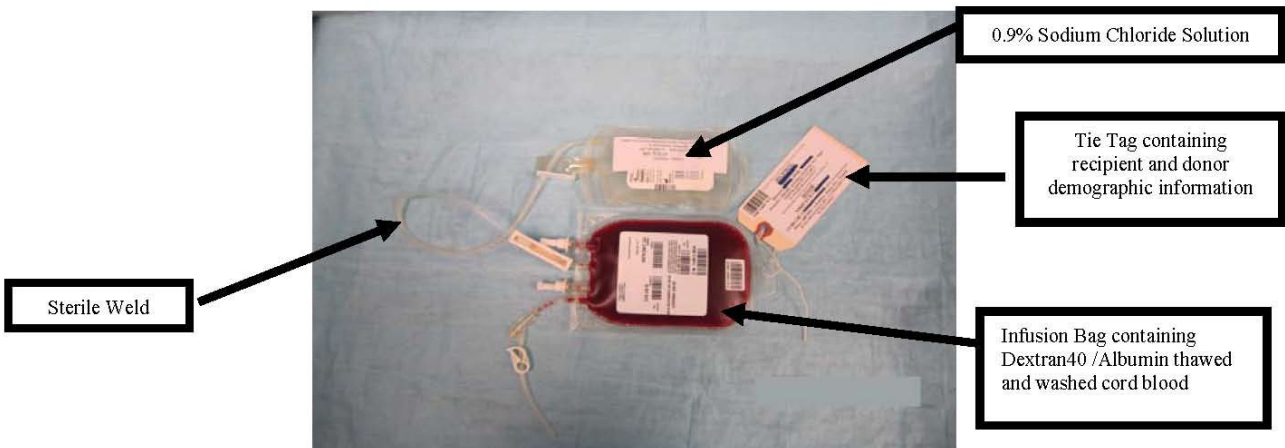

Figure 13
- g. Sterile weld the infusion bag to the saline wash bag (see Figure 13). Clamp the tubing between the infusion bag and the saline wash bag, using the clamp on the tubing connected to the infusion bag, on the side closer to the infusion bag.